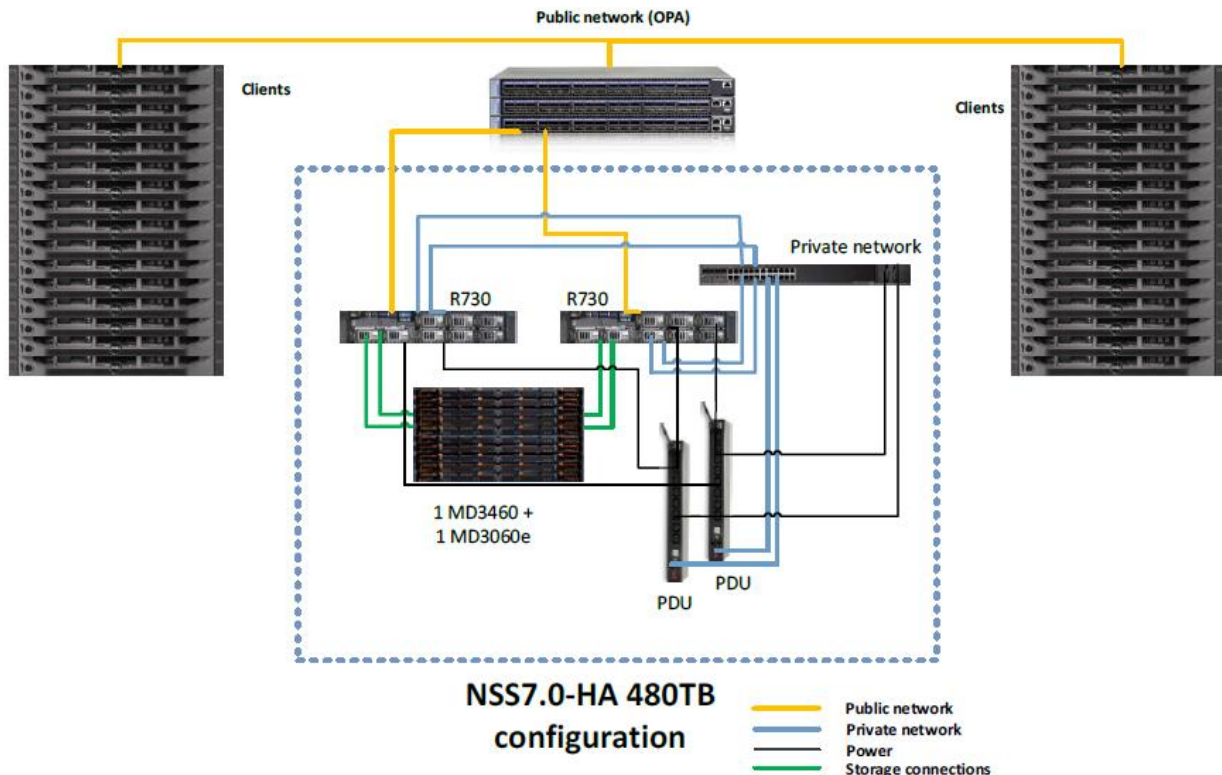

Figure 2: NSS7.0-HA test bed
The test used to evaluate the NSS7.0-HA functionality and performance is shown in Figure 2. The following configuration was used.
- Both NFS servers were connected to a shared Dell EMC PowerVault MD3460 storage enclosure extended with one Dell EMC PowerVault MD3060e storage enclosure (Figure 2 shows a 480 TB solution with the two PowerVault MD storage arrays) at the back-end. The user data is stored on an XFS file system created on this storage. The XFS file system was exported to the clients by using NFS.